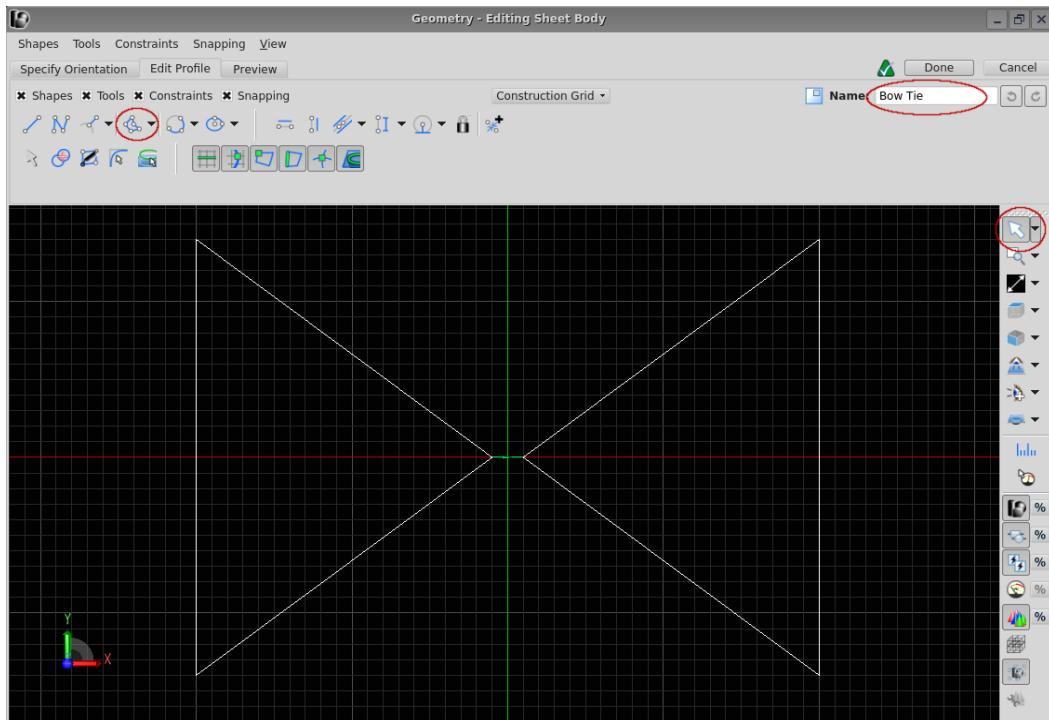

Figure 2.3: Sheet body creation with completed bow tie
- Choose the **POLYGON** tool from the **SHAPES** toolbar as shown in Figure 2.3.
- Zoom out a little in the drawing area so that all the vertices will fit on the screen, as shown in Figure 2.3. The mouse wheel is a convenient way to do this, or click on the view control tool at the top of the right-side pushbuttons and use control-left-drag to zoom in and out.